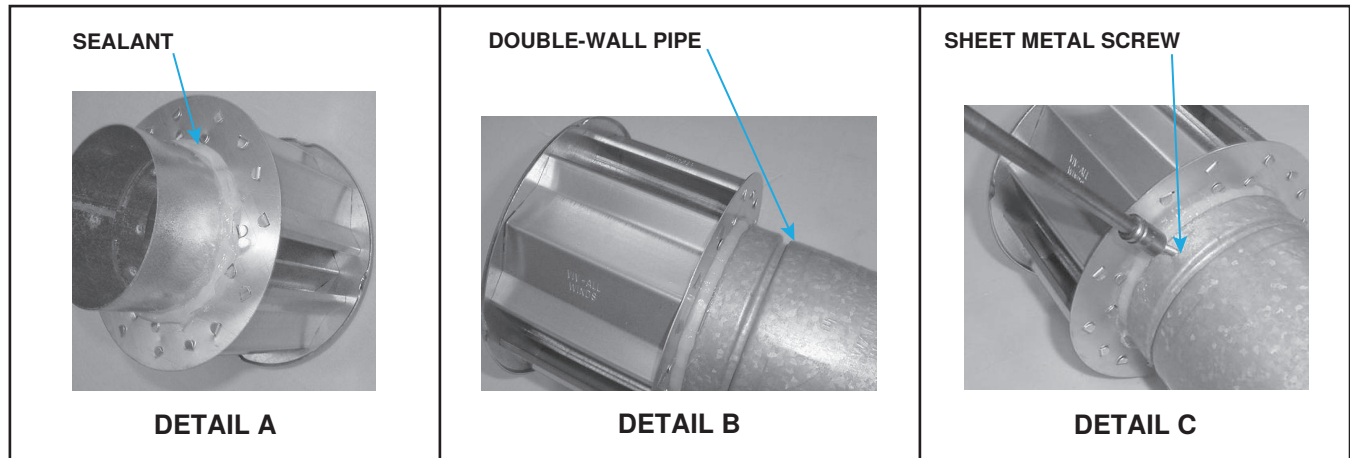

Figure 10. Connecting Double-Wall (Type B) Pipe to Vent Cap
- Apply continual 3/8-inch bead of silicone sealant around circumference of vent cap collar (see Figure 10, DETAIL A) to prevent any water inside vent cap from running down double-wall pipe.
- Before sealant has any time to dry, insert collar on vent cap as far as possible inside inner wall of double-wall pipe (see Figure 10, DETAIL B).
- Secure vent cap to double wall pipe by drilling hole and inserting 3/4-inch-long sheet metal screw into vent cap collar (see Figure 10, DETAIL C). Do not overtighten screw.